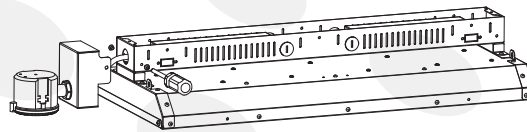

Figure10
Step2. Knock out the side cover, mount the sensor on the side, do wiring accoing to instruction on sensor (Figure 10).Step3. Fix the driver cover plate back in place (Figure 11).